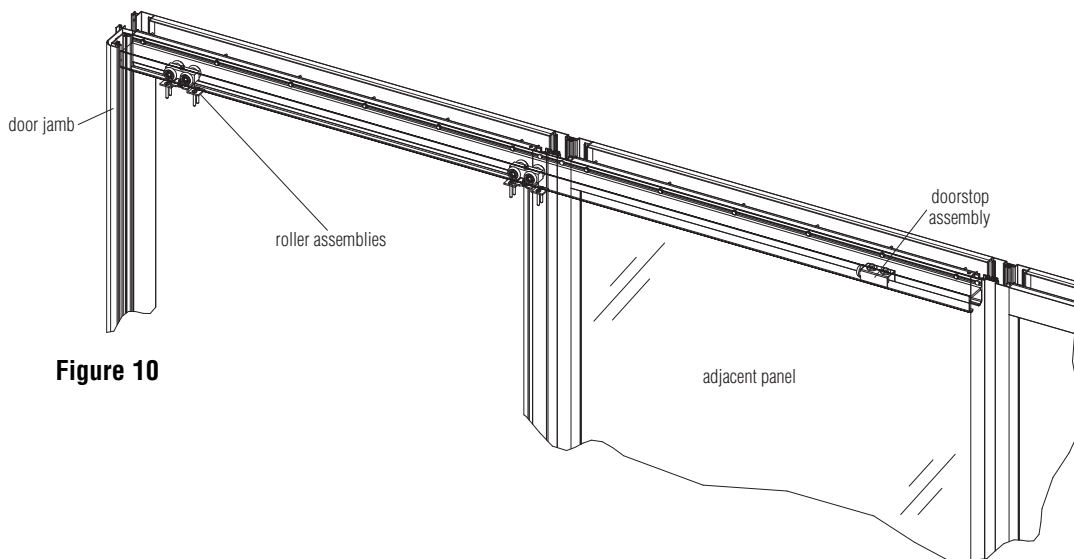

Figure 10
12. Hang and level the door. Slide the doorstop assembly into the rail followed by the two roller assemblies (less mounting brackets) (Figure 10). Place the door so the bottom of the door slips over the nylon glide of the adjustable base bracket. Lift one side of the door upward and engage the shoulder bolt of the roller assembly into the slot in the hanger bracket previously attached to the top of the door. Repeat on the other side of the door. Adjust height and level of door, then tighten lock nut on shoulder bolt.